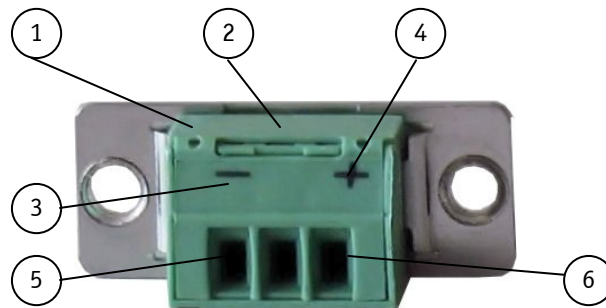
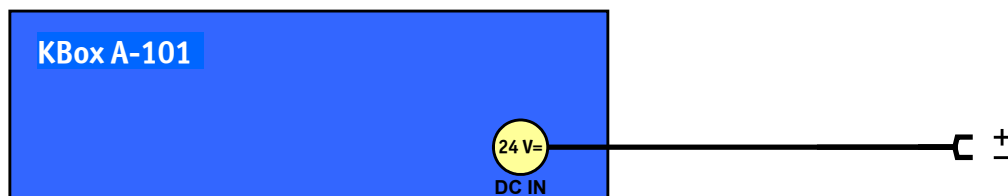

Fig. 20: Phoenix power plug terminal with "plus" and "minus" marking
Fig. 21: Connecting the KBox A-101 to a DC main power supply via DC power cable
5. Insert the wires into the corresponding clamp of the Phoenix plug terminal. Make sure that you have the right polarity of the connection (refer to Fig. 20).
The KBox A-101 can be connected to a DC main power supply (see Fig. 21) via a DC power cable and the supplied Phoenix power plug terminal (see Fig. 20).